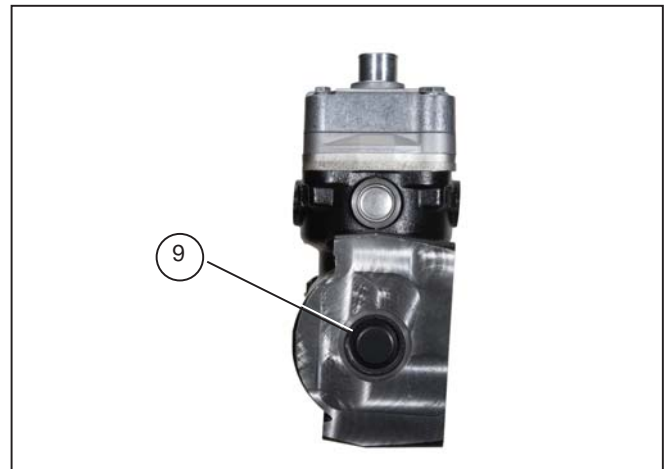

FIGURE 10 - FRONT COVER
1. Remove the cover (9) from the front of the crankcase. Use a sharp flat head screw driver or a scraper. Place the edge under the lip along the outside diameter of the cover. Pry the cover from the cast surface until the cover can be removed. *Refer to Figure 10.*